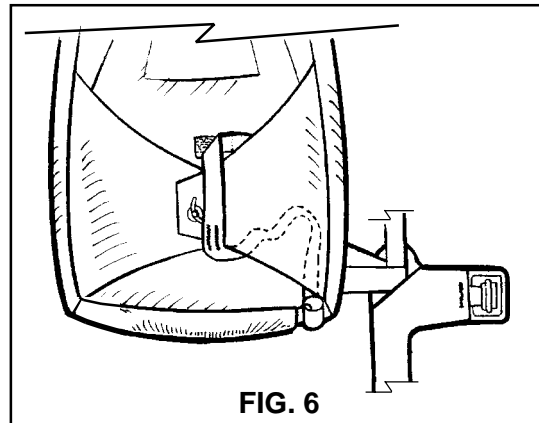

FIG. 6
4. Stuff rolled pilot chute completely into pouch making sure the handle sticks out enough for an easy grip. Place any exposed bridle under the bridle cover leading to the spandex pocket. (**FIG. 6**).